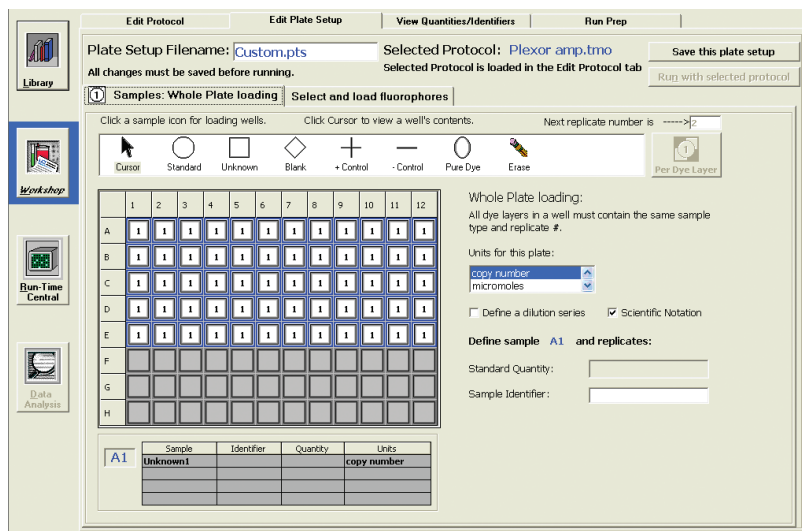

Figure 3. The "Whole Plate Loading" tab in the "Edit Plate Setup" window.
4. In the “Edit Plate Setup” window that appears, select the “Whole Plate loading” tab (instead of the “Per Dye Layer” mode) (Figure 3) .
10. Enter a name in the “Plate Setup Filename” box (Figure 3). Save the plate setup by selecting “Save this plate setup” and then selecting “Save” in the “Saving a Plate Setup” window that appears.